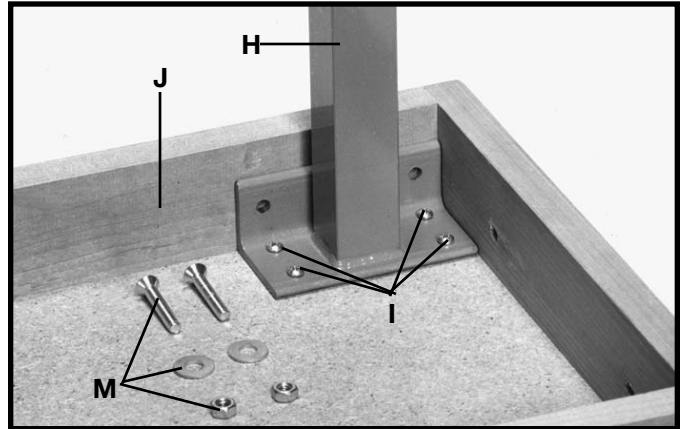
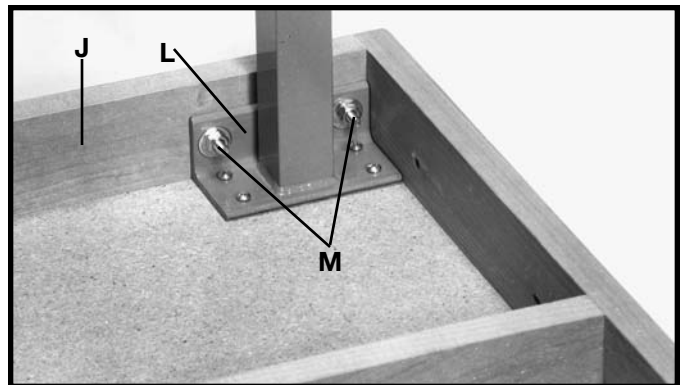

Fig. 105
Fig. 106
2. Figure 105 illustrates one of the legs (H) fastened to the bottom of the extension table with the four wood screws (I). Using a $\frac{1}{4}$ " drill bit, drill two through holes through the end piece (J) of the table, measuring the holes from the outside frame of the table. The holes are to be drilled $\frac{3}{4}$ " from the bottom, and $1\frac{1}{4}$ " and $4\frac{1}{4}$ " from the side.
3. Fasten the leg bracket (L) Fig. 106, to the end piece (J) of the table using the two $1\frac{1}{2}$ " flat head Phillips screws, flat washers and hex nuts (M) Figs. 105 and 106. Fasten the remaining leg to the extension table in the same manner.